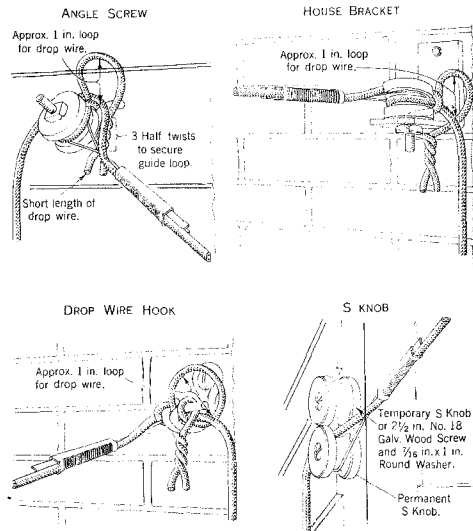

Fig. 1 – Temporary Guide Loop
(5) Man No. 1 and Man No. 2 both go to the opposite or building end of the drop wire span.
(6) Man No. 1 cuts the drop wire in the building run at a point where the end of the wire can be reached from the ground and then frees the wire from all intermediate attachments between the cut end of the wire and the first building attachment.
(7) Man No. 2 removes the C knob or the SC wire clip at the first building attachment and then places a temporary guide loop at the first building attachment, around the drop wire, such as shown in Fig. 1, to prevent the wire from becoming accidentally disengaged from the building attachment as it is being pulled over the power circuits.